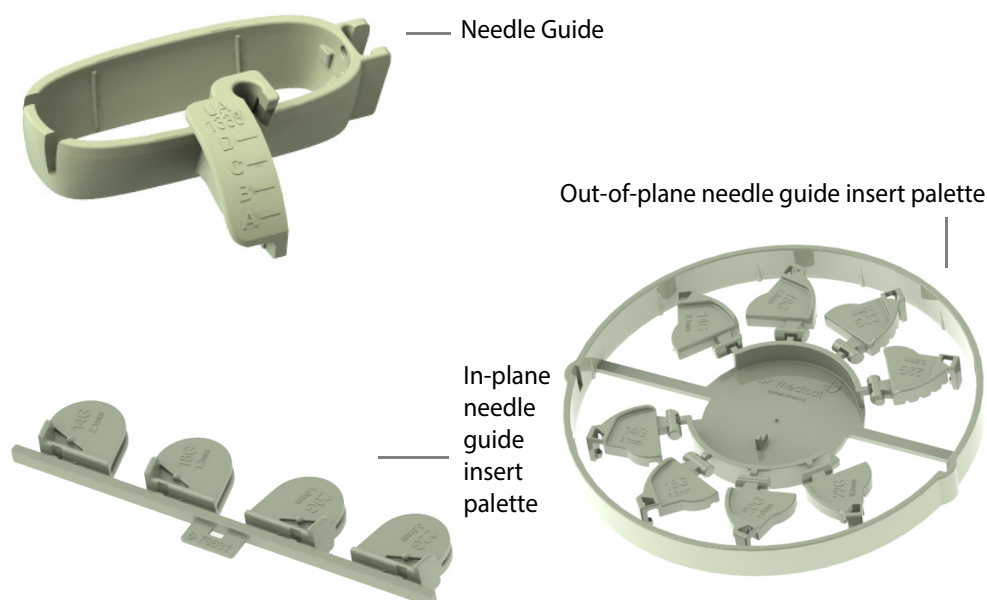

Figure 2. Two needle guide palettes are supplied with needle guide UA1338
- 2 For out-of-plane use, select the required out-of-plane needle guide insert by breaking it off the palette, see Fig. 2.
- 3 For in-plane use, select the required in-plane needle guide insert by breaking it off the palette, see Fig. 2
Press the **Puncture Guide** button on the system to superimpose puncture points on the scan image. These points match the needle channel markers A, B, C and D on the out-of-plane needle guide. See Fig. 2.